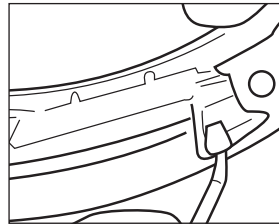

Figure 11
- Carefully insert the battery wire into the port on the LED assembly (Figure 11).